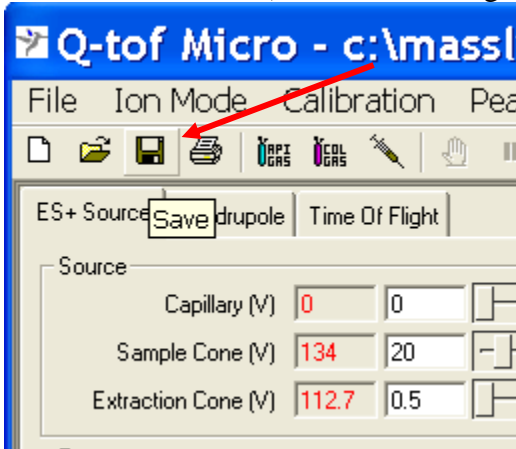

Figure 11
- a. So click the “save” icon as the very last thing you do (Figure 11, red arrow). The icon will grey out once you have saved it.